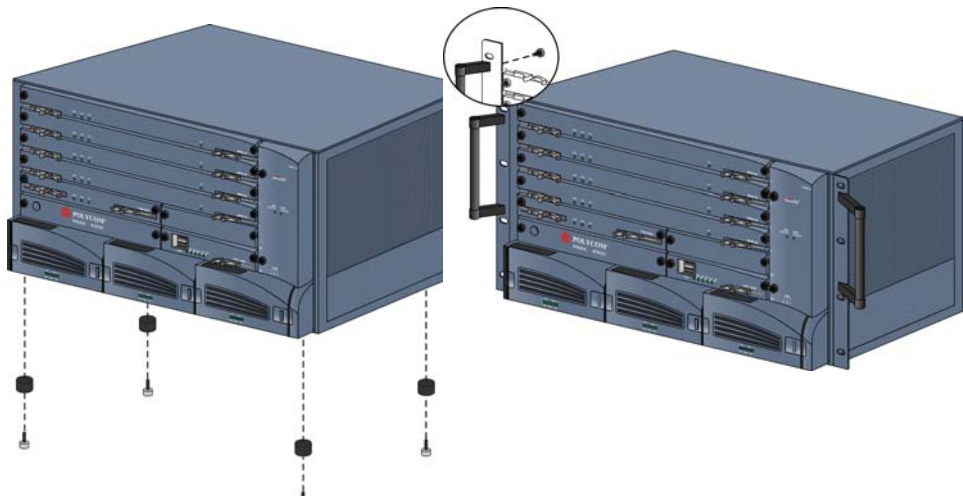

Figure 1-1 *Optional - Fast feet and handle removal*
- Optional - Depending on the rack installed in your site, you may need to remove the handles if they are attached to the RMX 4000. Unscrew the handles from the chassis as shown in Figure 1-1, *"Optional - Fast feet and handle removal"*.
- Optional - If the opening in the rack that is allocated to the RMX 4000 is exactly 6U, the feet must be removed from the RMX 4000 to install it in the rack. Unscrew the feet from the chassis as shown in Figure 1-1, *"Optional - Fast feet and handle removal"*.